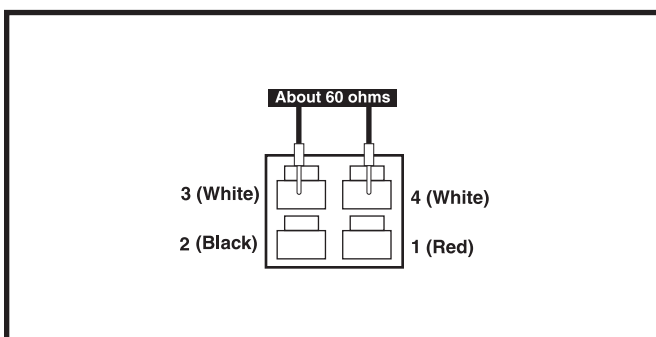

Figure 39. Connector 8a (also connector 9a)
6. Measure resistance across pin 3 (white) and pin 4 (white) on connector 8a and across pin 3 (white) and pin 4 (white) on connector 9a. **See figure 39.**
- If your multimeter indicates about 60 ohms for both tests, then replace the power interface harness (2) and retest the system.